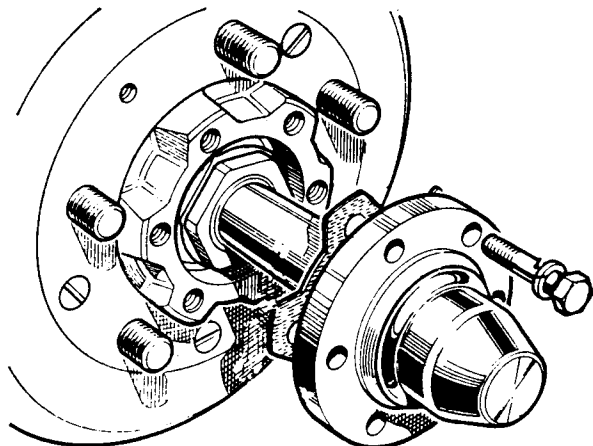

Fig J2.1
- (3) Refer to Fig J2.1. Remove the hub driving member fixings.
- (4) Withdraw the driving member and attached half shaft sufficiently to disengage the differential.
- (5) Carry out steps (3) and (4) for the other half shaft.